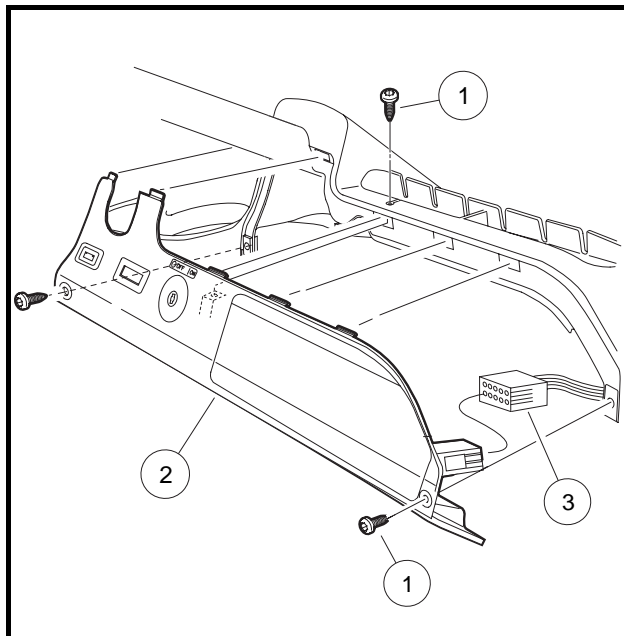

Figure 12-1 Instrument Panel Removal
2. Remove the instrument panel (**Figure 12-1, Page 12-1**).
- 2.1. Remove three screws (1) from the instrument panel (2) (**Figure 12-1, Page 12-1**).
- 3.1. Connect the electrical connector (3) **(Figure 12-1, Page 12-1)**.